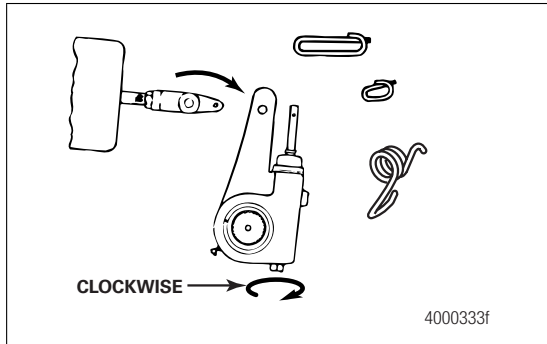

Figure 3.2
2. Use a wrench to turn the manual adjusting nut CLOCKWISE until the brake shoes are fully retracted, and the lining clears the drum. Figure 3.2.